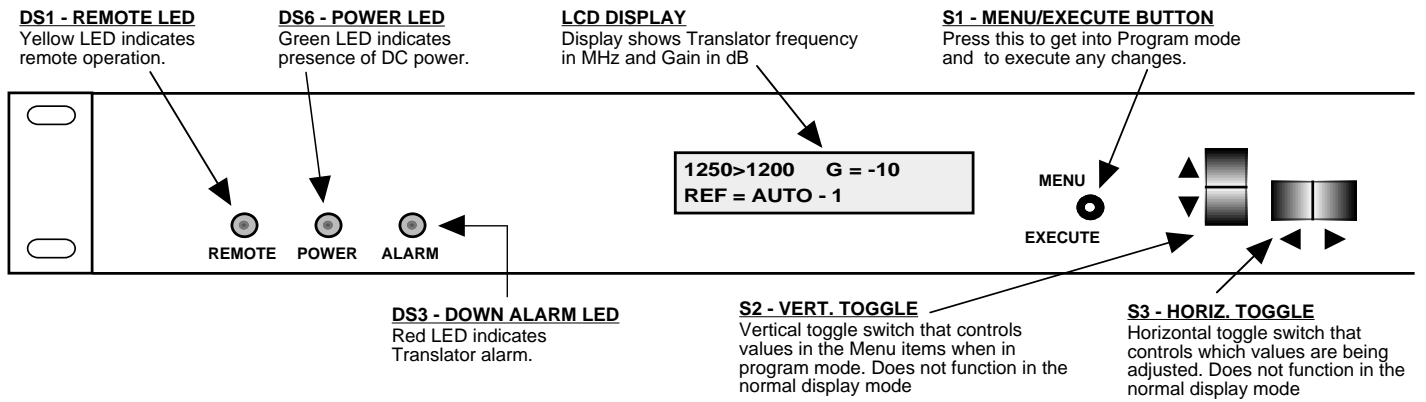

FIGURE 2.3 2083-1010 Front Panel Controls and Indicators
5. Be sure DS6 (green, DC Power) is on and DS (red, Alarm) is off (Figure 2.3).
Alarm indications appear on the LEDs (See figure 2.3).